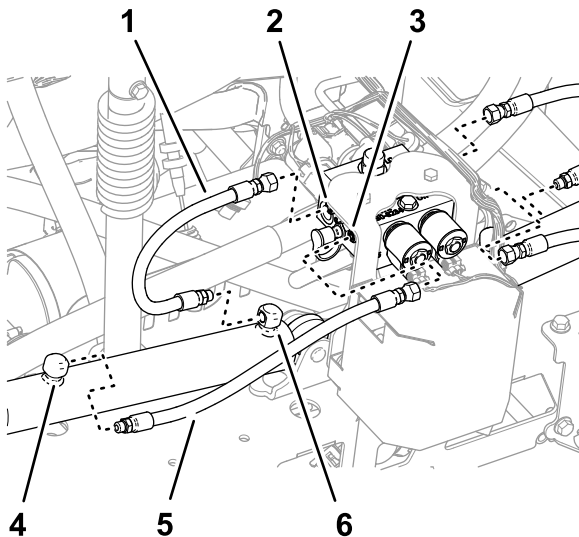

Figure 37
1. Remove the hoses from the extend ports of the left and right lift cylinders (Figure 37).
2. Remove the hoses from the ports of the C2 and C4 of the lift-cylinder manifold (Figure 37).
3. Remove the hoses from the retract ports of the left and right lift cylinders (Figure 37).
4. Remove the hoses from the ports of the C1 and C3 of the lift-cylinder manifold (Figure 37).